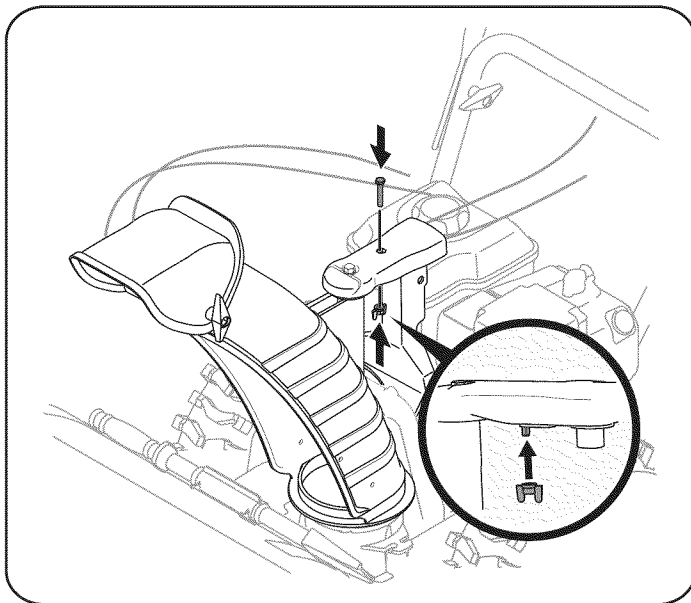

Figure 4
5. Finish securing chute control assembly to chute support bracket with wing nut and hex screw removed earlier. See Figure 4.